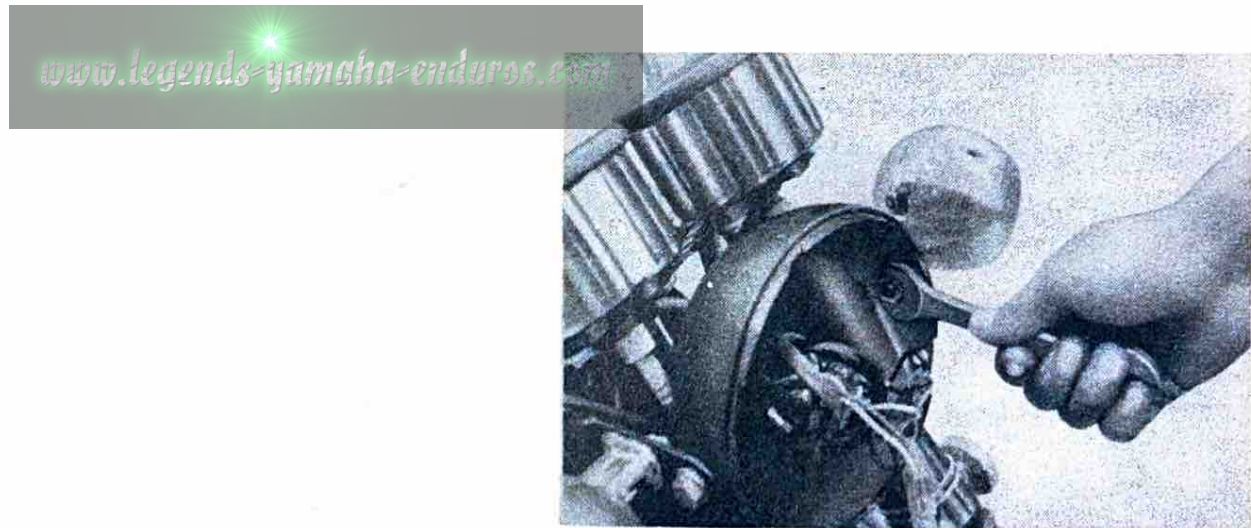

Fig. 34
- a) Loosen the mounting nuts in the right and left headlight brackets, and pivot the headlight up or down while you are sitting on the motorcycle. (Fig.34)